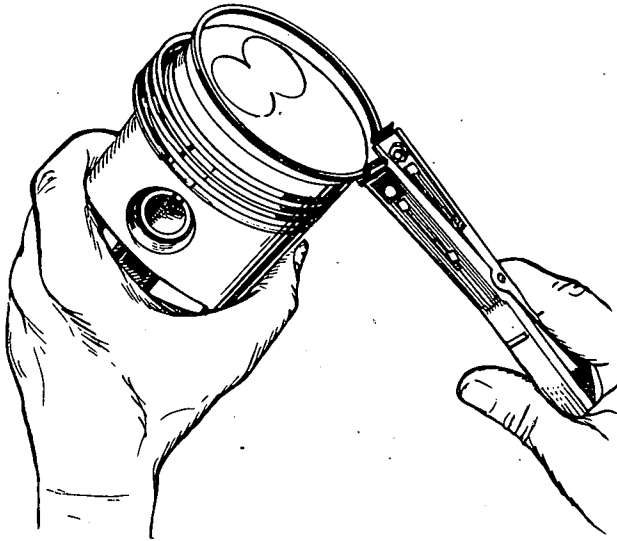

FIGURE 24. REMOVING PISTON RINGS
5. Remove the piston rings from the piston with a piston ring spreader as shown in Figure 24. Remove the piston pin retainer and push the piston pin out.